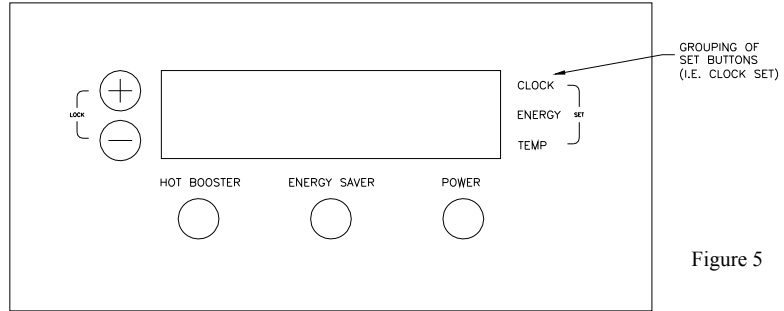

Figure 5
2. Press "POWER" button on the cooler display (see figure 5), clock will flash 12:00 AM.